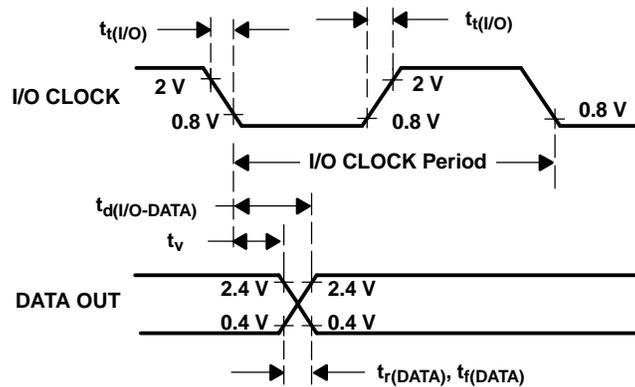

Figure 6. I/O CLOCK and DATA OUT Voltage Waveforms
- (3) Zero-scale error is the difference between 000000000 and the converted output for zero input voltage; full-scale error is the difference between 111111111 and the converted output for full-scale input voltage.
- (4) Analog input voltages greater than that applied to REF+ convert as all ones (111111111), while input voltages less than that applied to REF- convert as all zeros (000000000). The device is functional with reference voltages down to 1 V ($V_{ref+} - V_{ref-}$); however, the electrical specifications are no longer applicable.
- (5) Total unadjusted error comprises linearity, zero-scale, and full-scale errors.
- (6) Both the input address and the output codes are expressed in positive logic.
- (7) I/O CLOCK period = 1/(I/O CLOCK frequency) (see Figure 6)
- (8) Any transitions of \overline{CS} are recognized as valid only if the level is maintained for a setup time plus two falling edges of the internal clock (1.425 µs) after the transition.